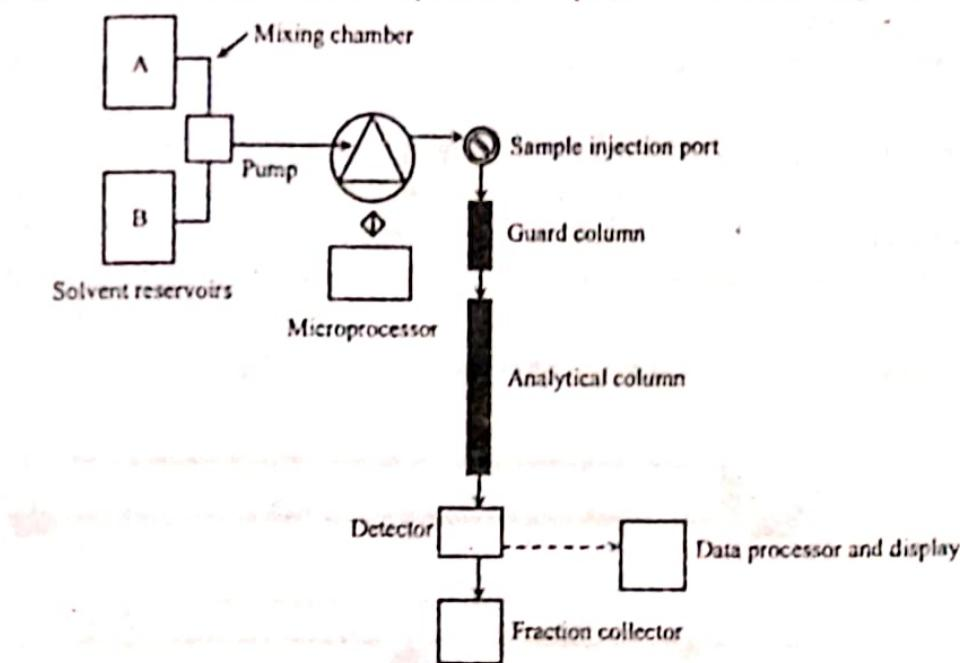

Fig: 1 A schematic diagram of a binary HPLC system
- vii) fraction collector to collect separated samples, as shown the Fig. 1.